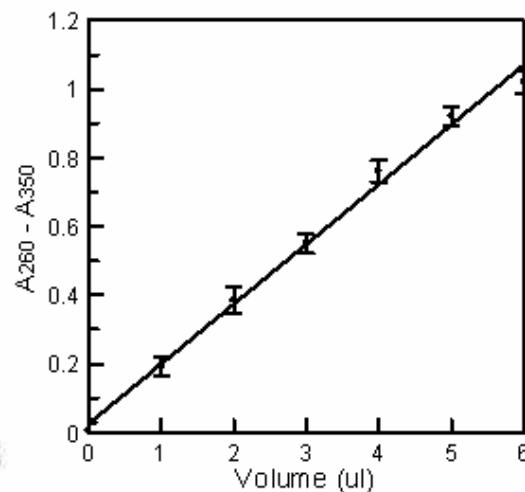

Fig 4. Relationship between the true absorbance and the volume of DNA solution added in the reaction chamber
**Figure 4** represents a diagram of the true absorbance against the volume of a DNA sample solution pipetted in the reaction chambers. The true absorbance shows a linearity relation with the volume at the range from 1 µl to 5 µl. Therefore, the use of a pipette can provide an alternative to prepare a standard curve, in which only one standard with an appropriate concentration can be added into the assigned reaction chambers on IMAPlate with a serial volume. In such a way, the preparation of a standard series of DNA solution is no longer necessary. It may also eliminate the need for dilution of samples with high concentration just by adding 1 µl of samples to the reaction chambers for measurement.